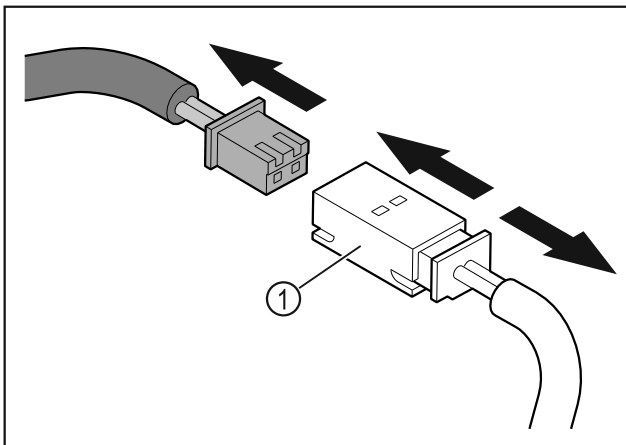

Fig. 13
- Disconnect the plug and the plug coupling Fig. 13 (1).